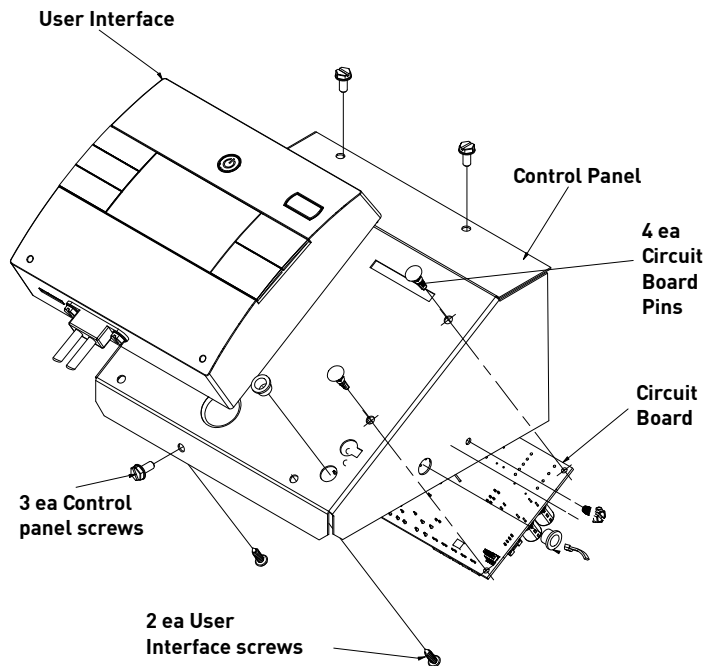

Figure 720
7. Install the control board using four(4) new circuit board pins. Remove User Interface to gain access to the pins. Refer to Figure 720
8. Reinstall the control board panel, with three (3) screws reinstall the screw in the electronic holder, and secure wiring as required.